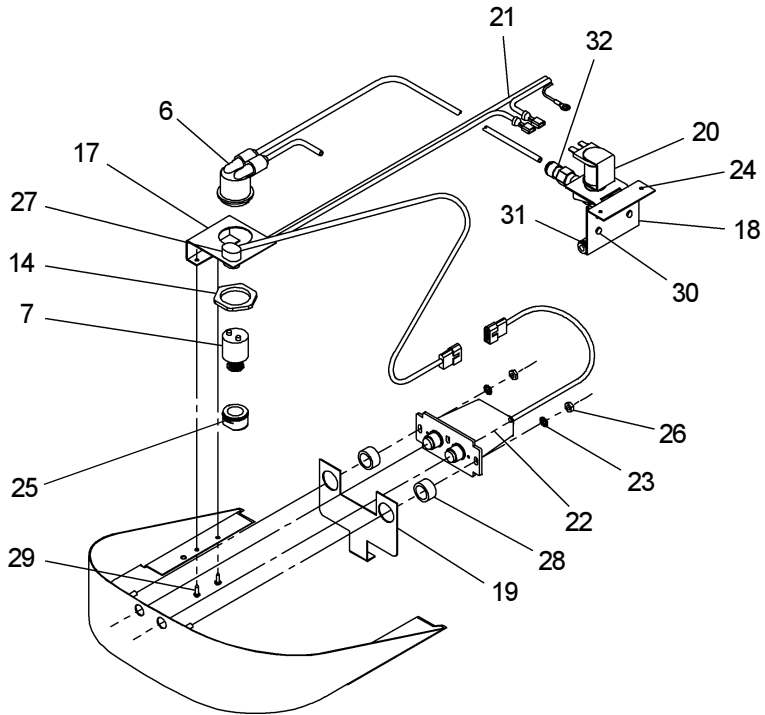

FIG. 8
8. Install fountain. Remove bottom cover plate on underside of fountain and save the screws. Mount the fountain to the upper panel and the wall frame with (4) 5/16" x 3/4" (19mm) long bolts and nuts (provided). Tighten securely.
11. Connect power cord of sensor to solenoid valve by running it through the back panel and connecting it as shown in Fig. 8. Connectors may be connected to either terminal on solenoid valve. Attach ground wire to solenoid valve bracket with green ground screw.
15. Check stream height from bubbler. Stream height is factory set at 35 PSI . If supply pressure varies greatly from this, remove items 26 and 31 and adjust the screw on the regulator (item 8). Clockwise adjustment will raise stream height and counter-clockwise will lower stream height. For best adjustment stream height should hit basin approximately 6-1/2" (165mm) from the bubbler.
16. Mount lower panel. Loosen the (2) #10-24 x 5/8" (16mm) screws at frame bottom lip. Slide upper tongue of lower panel under lower edge of already installed upper panel. Tighten previously loosened screws securely.